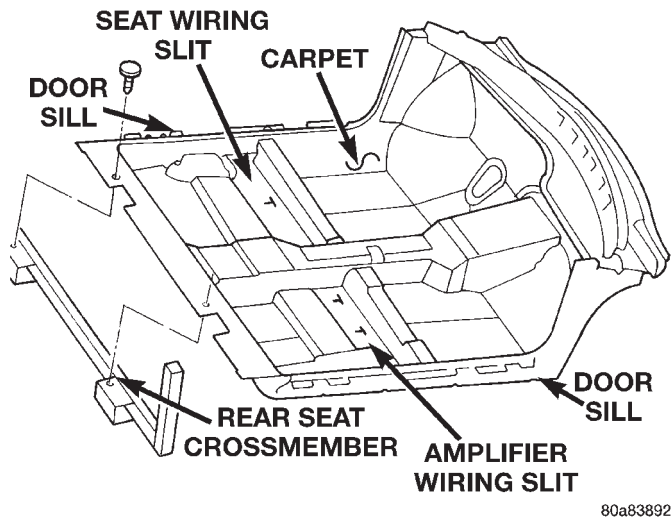

Fig. 67 Carpet Fasteners
- (1) Lower convertible top to full down position.
- (2) Remove front seats.
- (3) Remove rear seat cushion.
- (4) Remove floor console and forward instrument panel console.
- (5) Remove door sill trim panels.
- (6) Remove cowl trim panels.
- (7) Remove quarter trim panels.
- (8) Remove amplifier on passenger side of floor pan, if so equipped.
- (9) Remove wiring troughs holding carpet at out-board ends of rear seat crossmember.
- (10) Remove push-in fasteners from rear of carpet holding carpet to rear seat crossmember (Fig. 67).
- (11) Remove plastic sill retainers from metal clips along door sill panel.
- (12) Separate carpet from vehicle (Fig. 67).